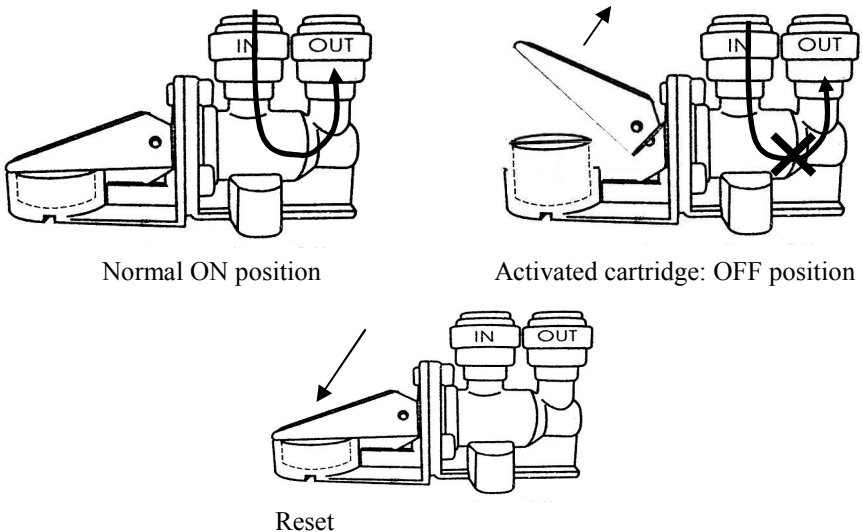

Figure 10 Leak Detector mechanical valve diagram
- Reset leak valve to open/ON position by pressing lever down (see Figure 10)